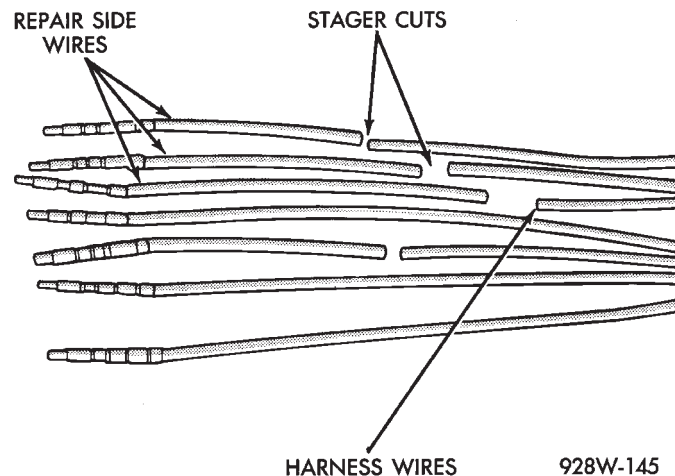

Fig. 18 Stagger Cutting Wires
(3) Cut off the existing wire connector directly behind the insulator. Remove six inches of tape from the harness.
(4) Stagger cut all wires on the harness side at 1/2 inch intervals (Fig. 18).
(5) Remove 1 inch of insulation from each wire on the harness side.
(6) Stagger cut the matching wires on the repair connector assembly in the opposite order as was done on the harness side of the repair. Allow extra length for soldered connections. Check that the overall length is the same as the original (Fig. 18).